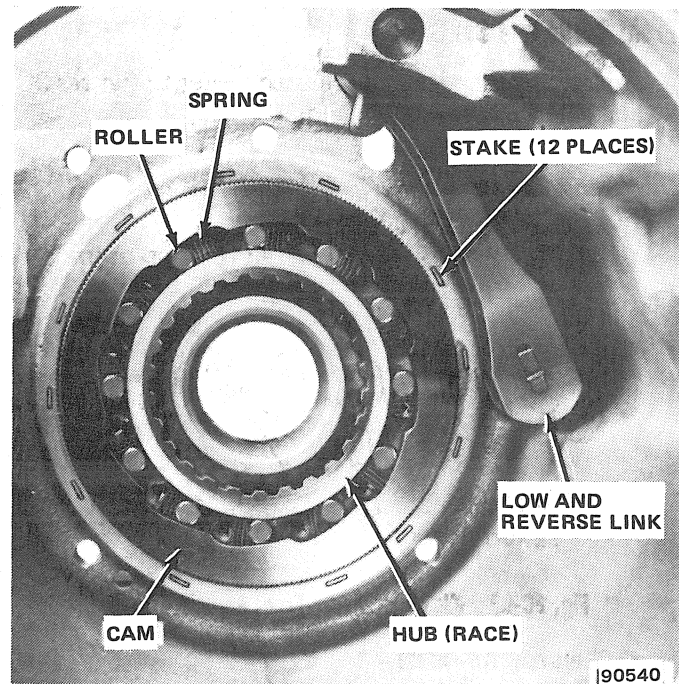

Fig. 2C-96 Overrunning Clutch and Rear Band Link
(1) Place transmission case in upright position and install clutch cam and spring retainer.
(2) Install clutch springs and rollers so springs rest against retainer post and rollers rest against springs, and with both springs and rollers installed on counter-clockwise side of spring retainer posts (fig. 2C-96).
(1) Install servo piston assembly in case bore with twisting motion.
(2) Place spring retainer and snap ring over piston (fig. 2C-95).
(3) Compress piston spring by hand and install snap ring.